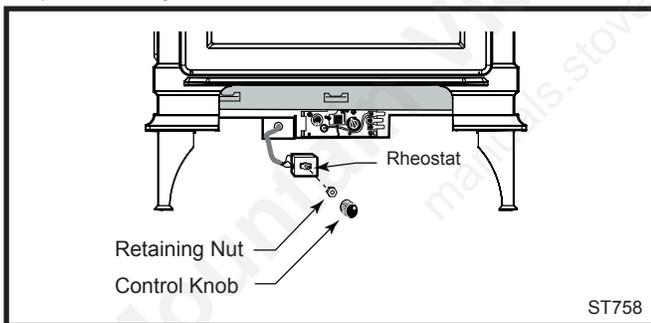

Fig. 13 Attach rheostat to left side of valve.
9. After sliding the firebox in place, the rheostat control switch attaches to the left side of the valve bracket at the front of the stove. (Fig. 13)